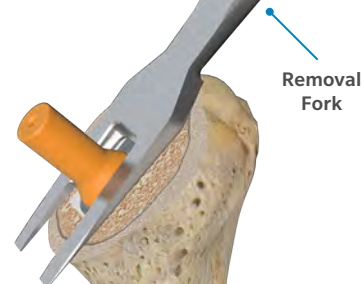

Figure 31
- Remove the Reamer Guide if needed with support of the Removal Fork (Figure 31).